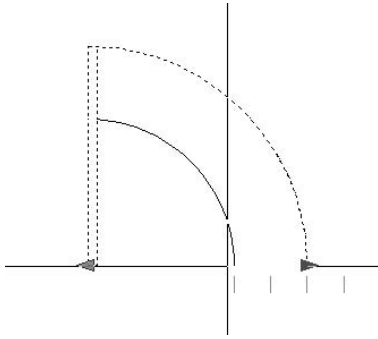

FIGURE C.18: The dynamic door block in action
7. Click the new dynamic door block, and then click the right-pointing arrow. The increment markers appear, and you can now resize the door and swing to any of three other widths (see Figure C.18). Play around with it.